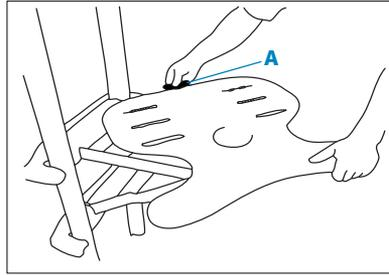

Figure 8a
The trunk board can rotate to facilitate transfers to a stationary toilet. This feature does not function with the kneeboard attached. The trunk board must be horizontal before using the pivoting feature (see Figure 8a).
The rotation of the trunk board can be set in 15° increments using the pivot latch (see Figure 8a). Press down on the pivot latch handle (A) firmly while rotating the trunk board. Release the latch and allow it to engage into the nearest position. The trunk board can be rotated 180 degrees.